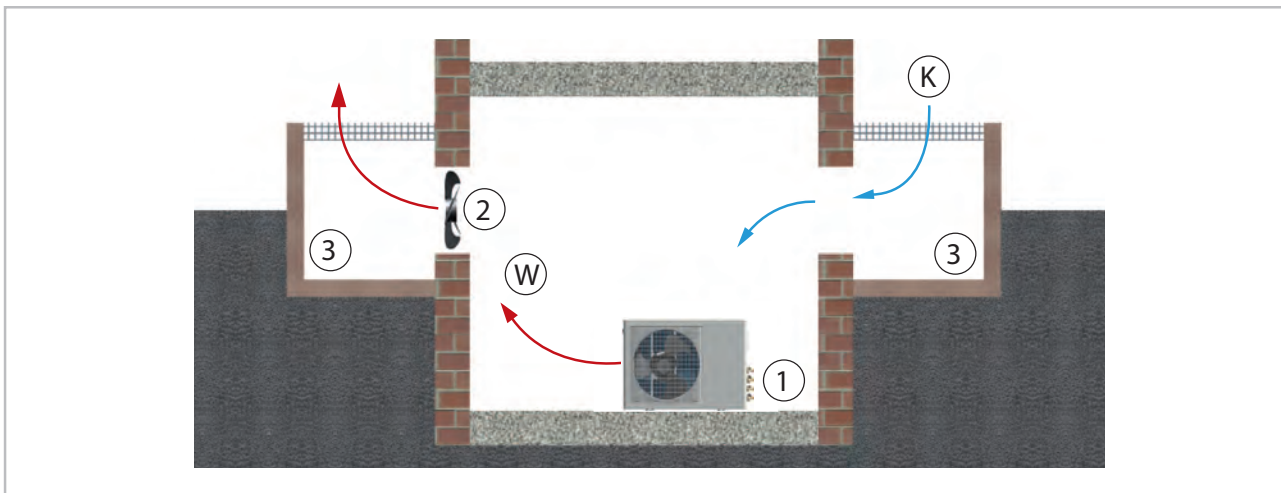

Fig. 8: Installation inside buildings
- Ensure that heat can dissipate adequately when placing the outdoor unit in cellars, lofts, adjoining rooms or halls (Fig. 8).
- Install an additional fan with a rated flow similar to that of the outdoor unit being installed in the room and that can compensate any additional pressure loss in ventilation ducts (Fig. 8).